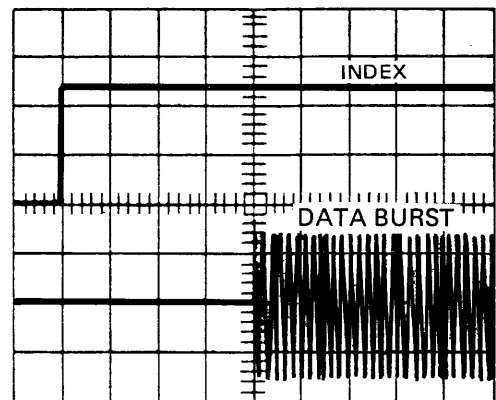

Figure 1-10. Synchronized Data
- e. Set oscilloscope as follows, to monitor leading edge of INDEX pulse and DATA, as shown in Figure 1-10.